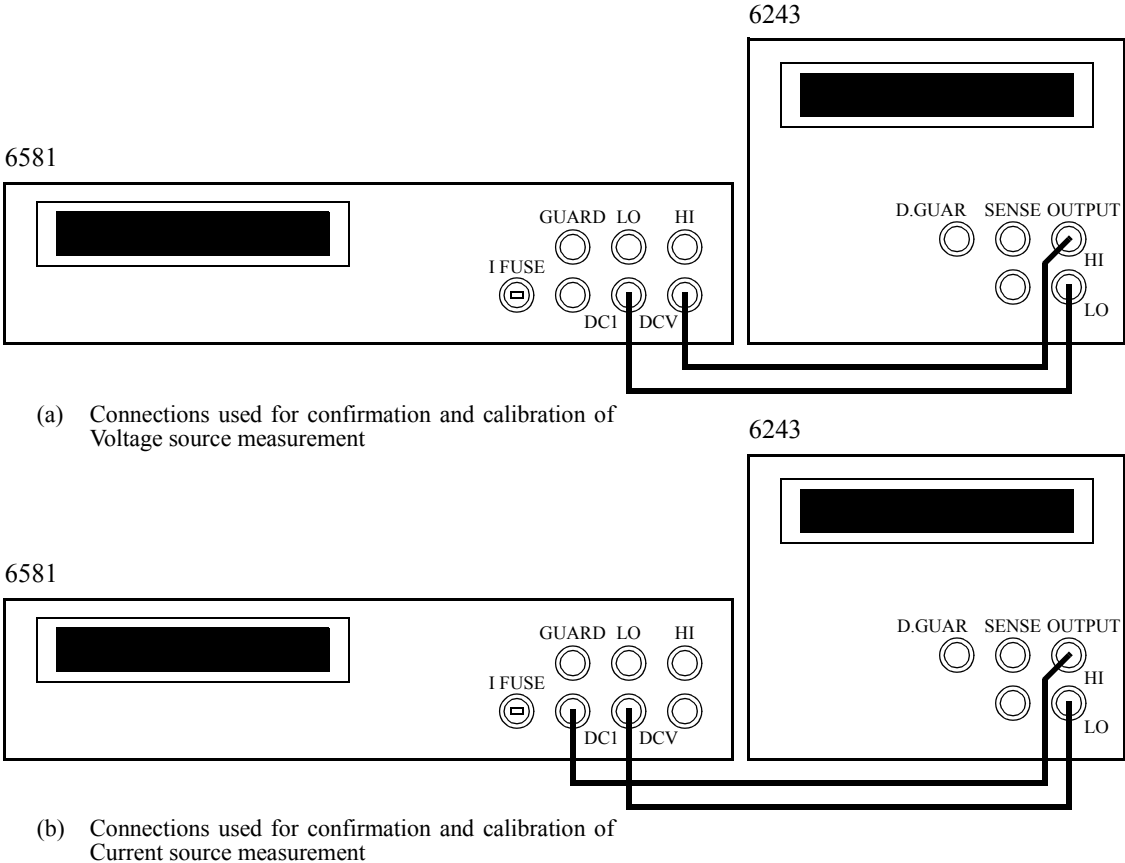

Figure 8-1 Connections for Calibration
1. Connect the 6243 and the DMM (Digital Multi-Meter) as shown in Figure 8-1 (a).
1. Connect the 6243 and the DMM as shown in Figure 8-1 (b).
Figure 8-1 shows the connections for calibration using the 6581.
Calibration of voltage source is performed with the connections shown in Figure 8-1 (a) and the DC Voltage function and auto range are used for the DMM measurement function.
But the connections are made as shown in Figure 8-1 (b) and the DC current function and auto range are used for the DMM measurement function.
Calibration of voltage measurement is performed with the connections shown in Figure 8-1 (a) and the DCV function and auto range are used for the DMM measurement function.
Calibration of current measurement is performed in the same way as calibration of voltage measurement. However, the connections are made as shown in Figure 8-1 (b) and the DCI function and auto range are used for the DMM measurement function.